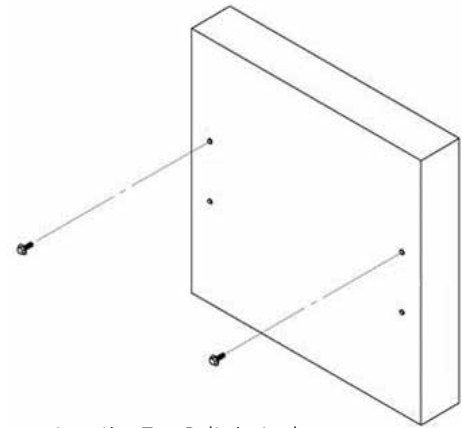

Figure 7. Inserting Two Bolts in Anchors
- Step 6:** Insert two bolts in top anchors and tighten until bolt head is 0.5 in from surface of wall. See Figure 7.